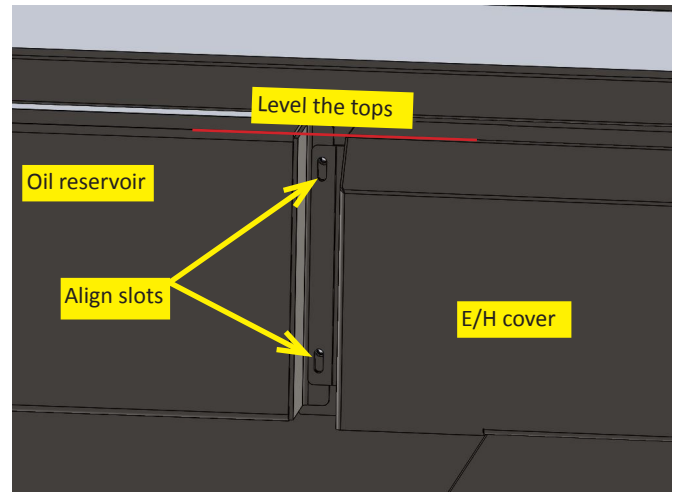

Figure 2
- 2 Position the E/H cover assembly (**ITEM 1**) with the slots in the hinged portion of the assembly aligned to the slots in the oil reservoir where the button head bolts were removed. While making certain the top of the E/H cover and hydraulic reservoir are level, replace the button head bolts to secure the cover and reservoir to the headache rack filler sheet. Figure 2